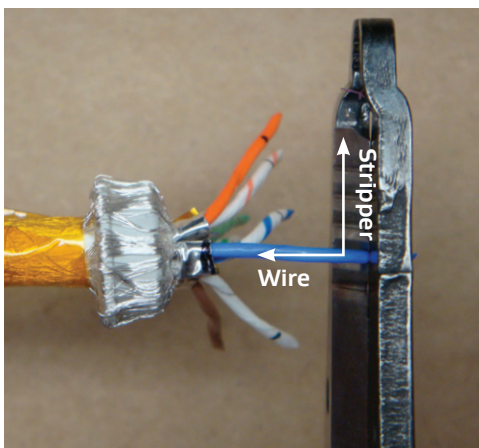

Figure 65: Stripping a primary wire
14. Strip each primary wire at the 0.177-inch mark on the 26 AWG position of the T-strippers (Figure 65). Make sure the wire is straight and the T-strippers are perpendicular to the wire. To ensure no wire damage and a clean strip, close the T-strippers around the primary wire and open slightly. Then, rotate your hand holding the T-strippers at a ¼ turn and close again.